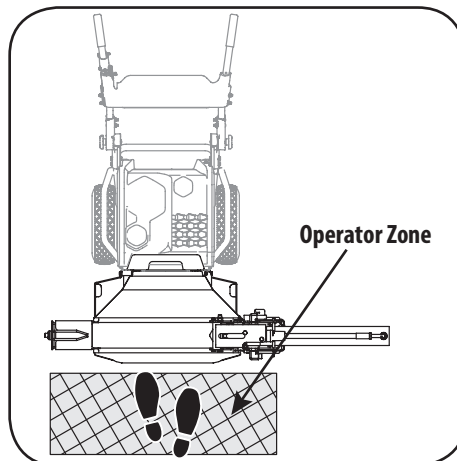

Figure 2-1
6. Always operate this machine from the operator zone. See Figure 2-1.